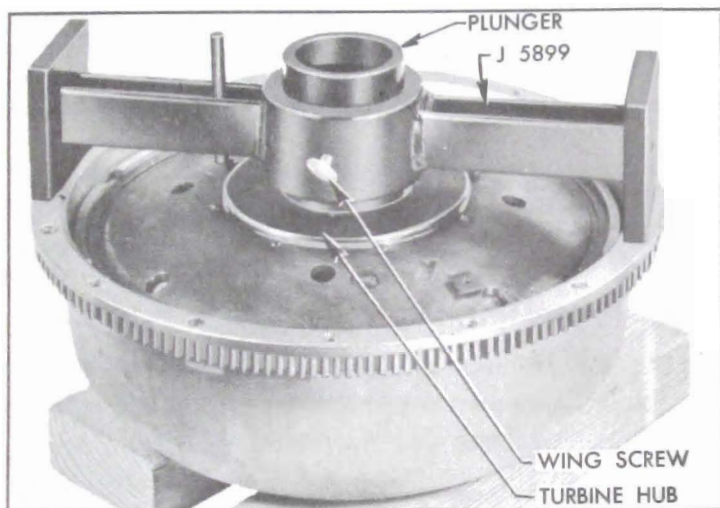

Figure 5-103—Gauge J 5899 on Pump and Turbine
5. Install Converter Clearance Gauge J 5899 on converter pump flange, making sure that indicator post does not contact the turbine. Loosen wing screw, firmly press gauge plunger down against first turbine hub and tighten wing screw. See figure 5-103.